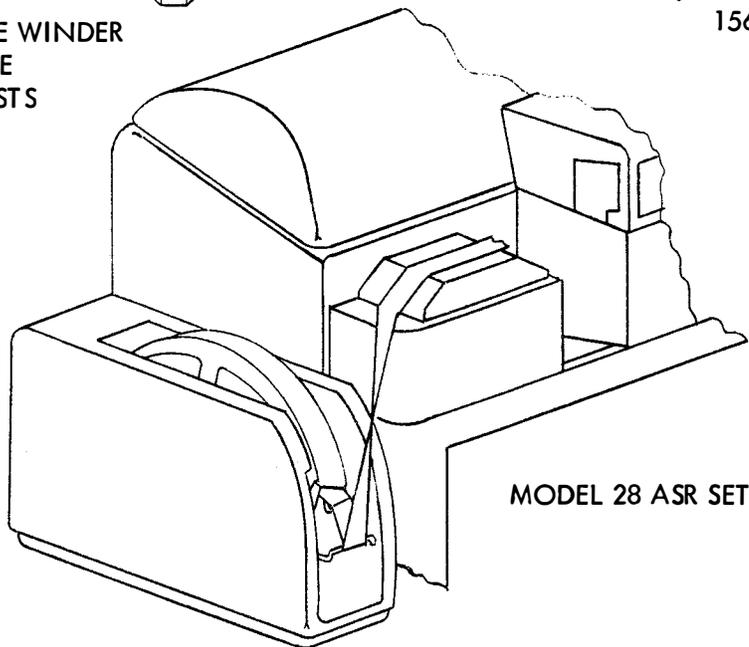

FIGURE 1
a. Assemble and mount the 194856 Modification Kit containing a shelf for the TW18 Type Tape Winder as shown in Figures 1 and 2.
b. With the Model 28 ASR Set, place the TW18 Tape Winder over the studs and route the tape according to the diagram on the tape winder. (See Figure 1)